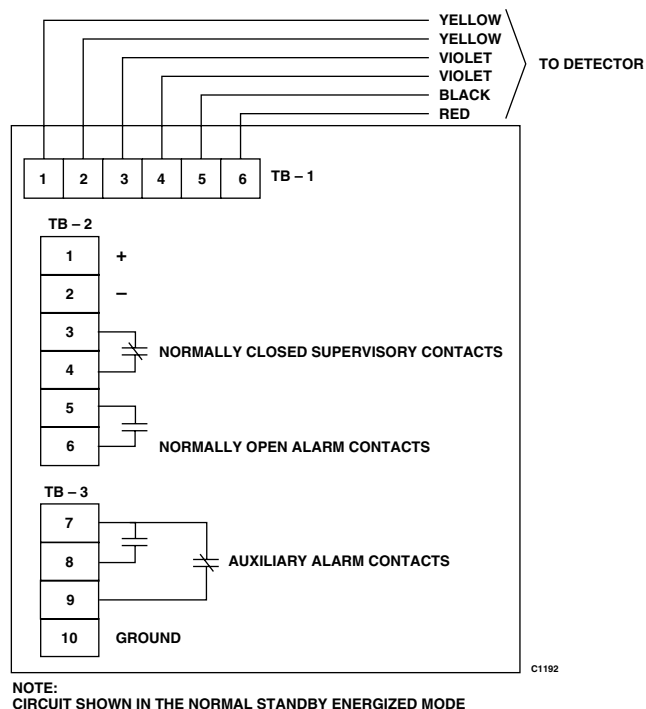

Figure 3—Wiring Terminals
3. Connect the external wiring to the appropriate terminals and re-install the junction box cover. See Figures 3, 4 and 5 for wiring details.